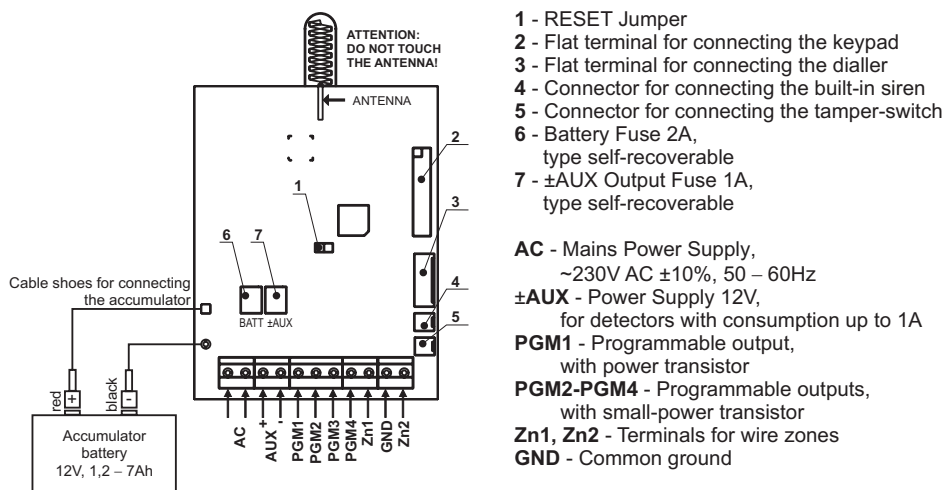

Figure 13.
4. Connect the ribbon cable to the display and the one of the built-in siren to the main module see Figure 13.
After the system is installed, it should be started-up: i.e. the power supply is turned on (initial power supply) with a mounted jumper for full reset (located next to the processor – see Figure 13, page 13).